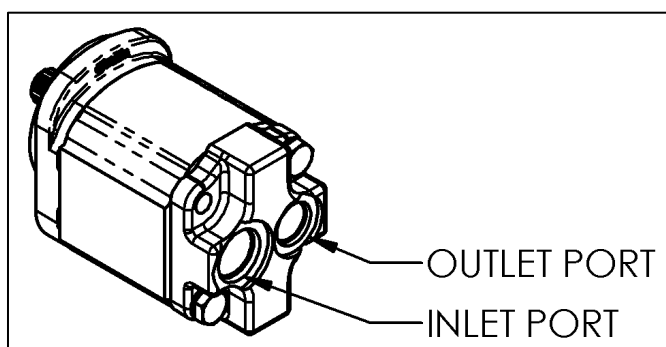

Figure 1 – Pump ports
- ☐ Figure 1 illustrates location / orientation of the pump ports.